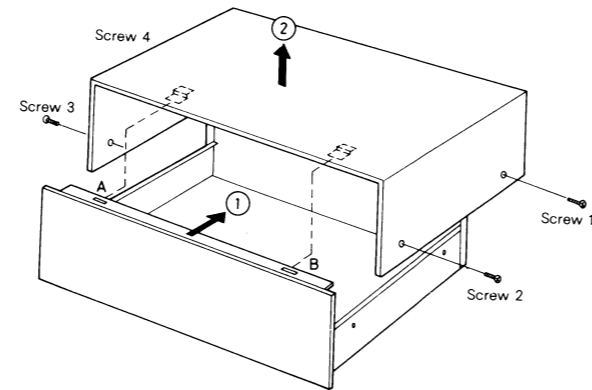

Fig. 1
- (1) Remove four (4) cabinet mounting screws (side Nos 1~4, as shown in fig. 1.
- (2) Remove metal fitting of cabinet from holes A and B of front panel in arrow direction ①, as shown in fig. 1.
- (3) Remove cabinet from chassis in arrow direction ②, as shown in fig. 1.
- (4) To reassemble, reverse above procedure.